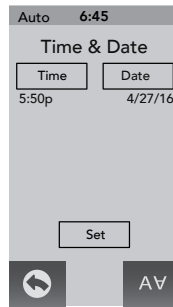

Figure 12.9b
From the Settings Menu, tap **Time & Date...** to enter the programming options, Figure 12.9b.
1. When you enter the menu, tap **Time** to start to program the time, Figure 12.9b.